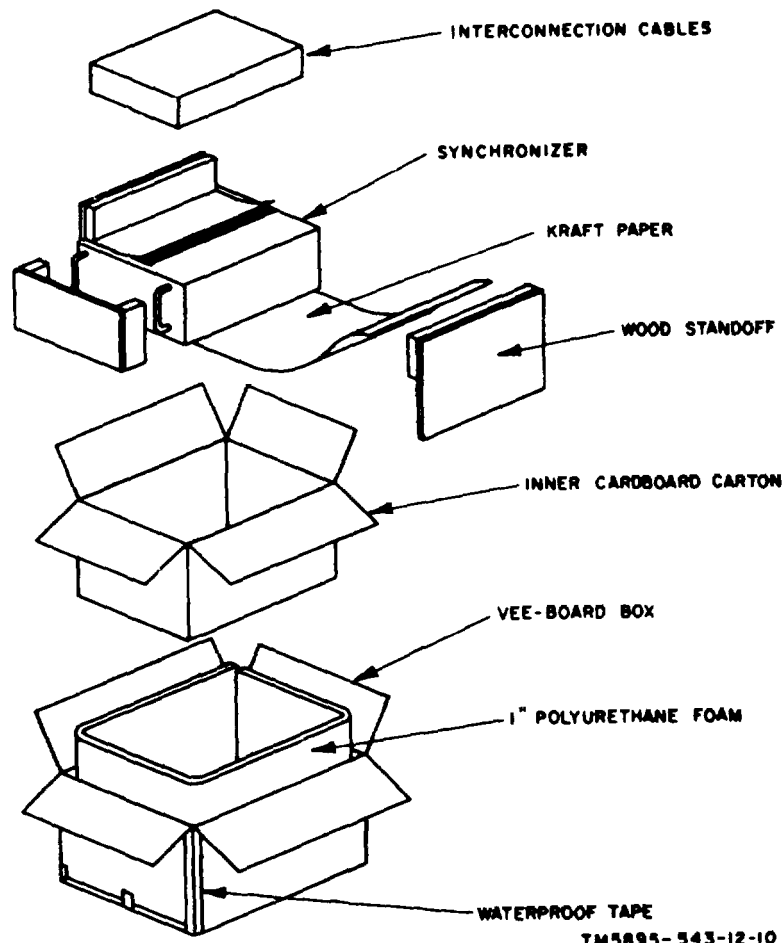

Figure 2-1. Synchronizer, typical packaging diagram.
(fig. 2-1)
*a. Packaging Data.* When packed for shipment, the synchronizer is placed in a cardboard carton which is then wrapped with polyurethane foam and packed in a vee-board box. The vee-board box and its contents are shown in figure 2-1. The dimensions of the vee-board box are: 12 inches high, 33 inches deep, and 22 inches wide; the volume is approximately 5 cubic feet, and the weight is approximately 100 pounds. An additional red card and a black logic module, when required, are shipped in a separate package that is approximately 9 1/4 by 8 1/4 by 2 3/4 inches in size.